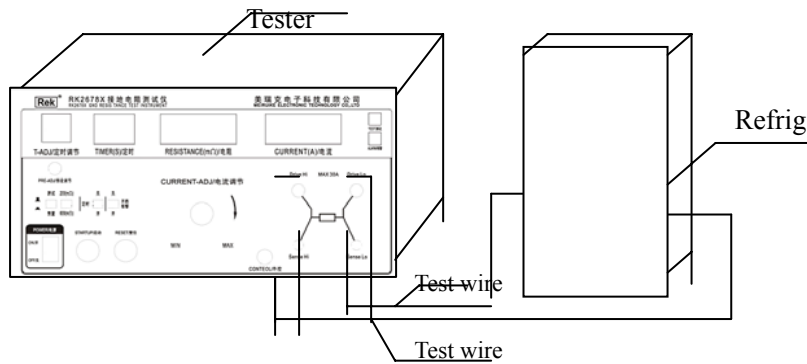

Fig. 2
(1) Common test: connect wires as shown in Fig. 2, put one test clamp at general earthing end and another clamp at the tester's metallic part that can be touched.